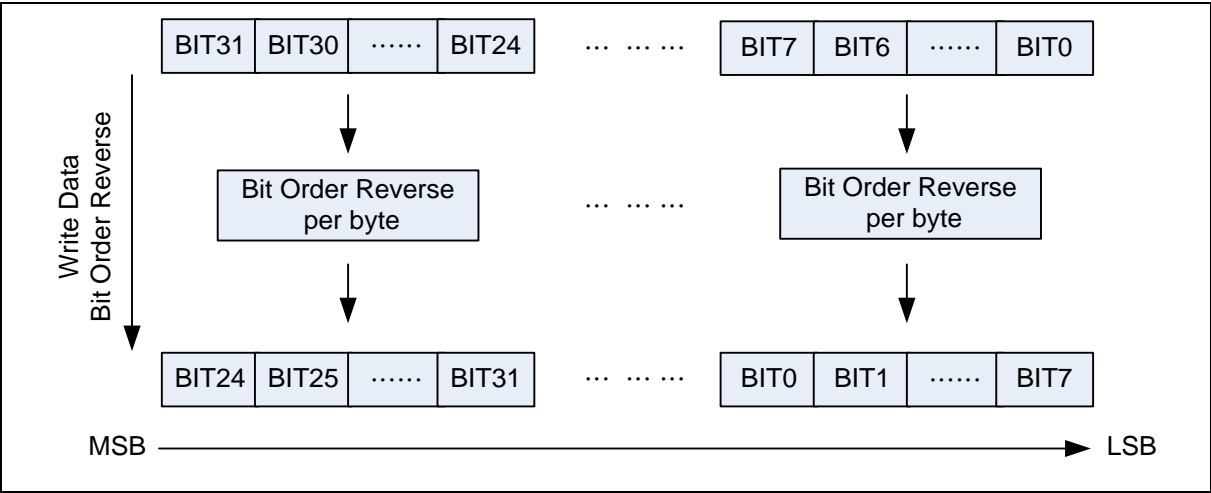

Figure 6.7-3 Write Data Bit Order Reverse Functional Block
- Configure bit order reverse for CRC write data by setting DATREV (CRC_CTL[24]). The functional block is also shown in Figure 6.7-3.